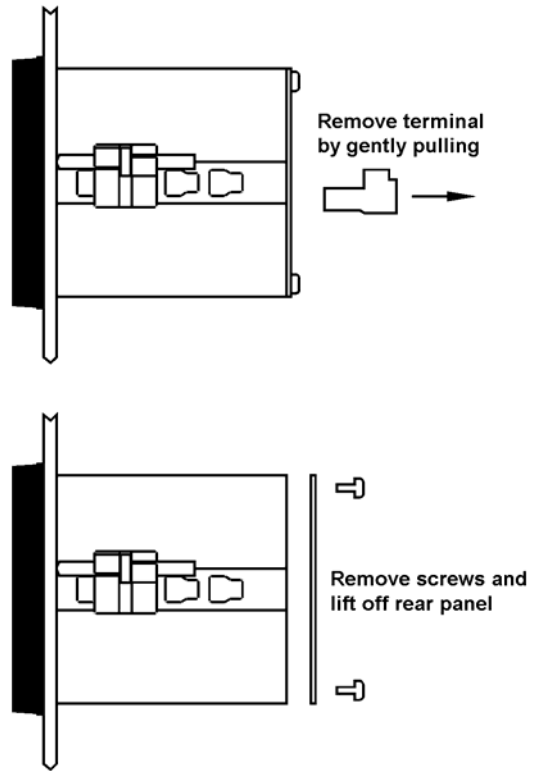

Fig 7 Removal of rear panel
Both instruments are conditioned and calibrated by plug-in links and two multi-turn potentiometers. The potentiometers are accessible through holes in the rear panel, but the rear panel must be removed to gain access to the plug-in links. See Fig 7.
- Remove the rear terminal block and the rear panel as shown in Fig 7.